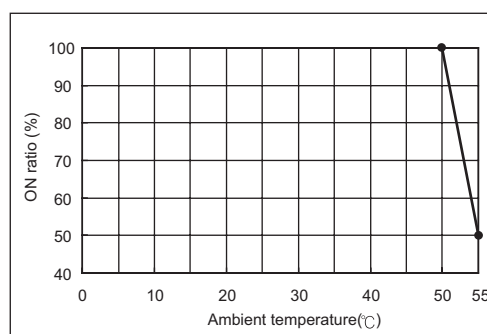

Figure 3.4 Derating chart
(1) When all channels are the coincidence output function
Take care so that the ratio of the number of points that external coincidence output (ON) is executed to the number of external coincidence output points of the module (4 points) does not exceed the ON ratio in Figure 3.4.
Take care so that the ratio of continuous comparison No. m ON time setting (Un\G52, Un\G102) (t1) to the time from start of coincidence output to the next coincidence output (t2) in Figure 3.5 may not exceed the ON ratio in Figure 3.4.
(3) When (CH1 or CH2) is the coincidence output function and (CH2 or CH1) is the continuous comparison function
Take care so that the addition of the ratio of above (1) "When all channels are the coincidence output function" in the CH where the coincidence output function is set and a value when the ratio of above (2) "When all channels are the continuous comparison function" in the CH where the continuous comparison function is set is divided by 2 may not exceed the ON ratio in Figure 3.4